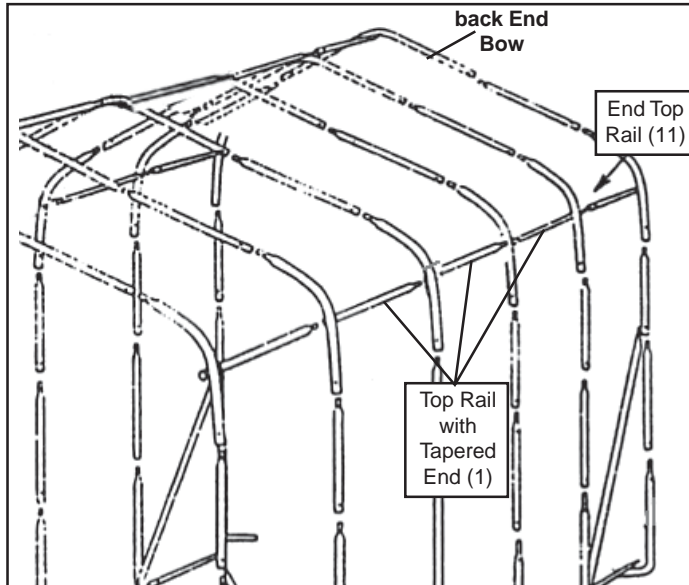

Figure 5
1. Start at one side of the back End Bow along the curvature of (3). (11) attaches to (3) on the inside of this curve. Insert (1) inside (11) and attach to the Middle Bow. Continue attaching the (1)'s to the Middle Bows and each other until you reach the end. Repeat these steps on the other side. Do not tighten bolts at this time. The bolts at the end will need to be removed when installing the Tarp (door) and Tarp (back). **See Figure 5.**